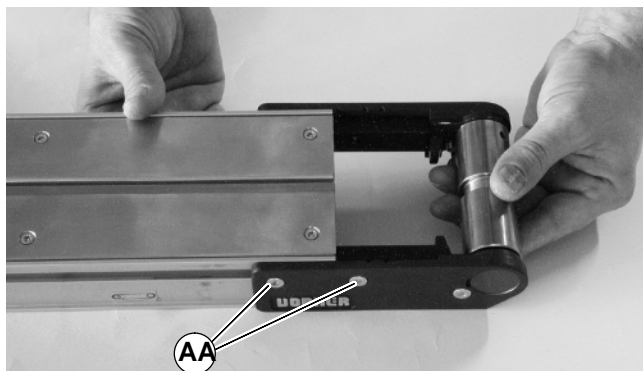

Figure 19
7. Install pulley assembly on conveyor. On both sides of conveyor, hand tighten fastening screws (AA of Figures 19 and 20).